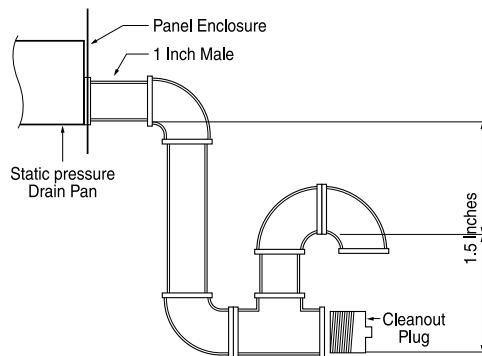

Fig. 1
- Remote to be connected with remote wire and to be fixed at location specified in. **(Fig. 1)**
※ Suggested airflow clearances and service clearances are given in. **(Fig. 1)**
A 1" male condensate drain connection is located on the corner of the unit next to the evaporator section access panel. A trap should be installed and filled with water before starting the unit to avoid air from being drawn through. Follow local codes and standard piping practices when running the drain line. Pitch the line downward, away from the unit, and avoid long horizontal runs. See Fig. 1.